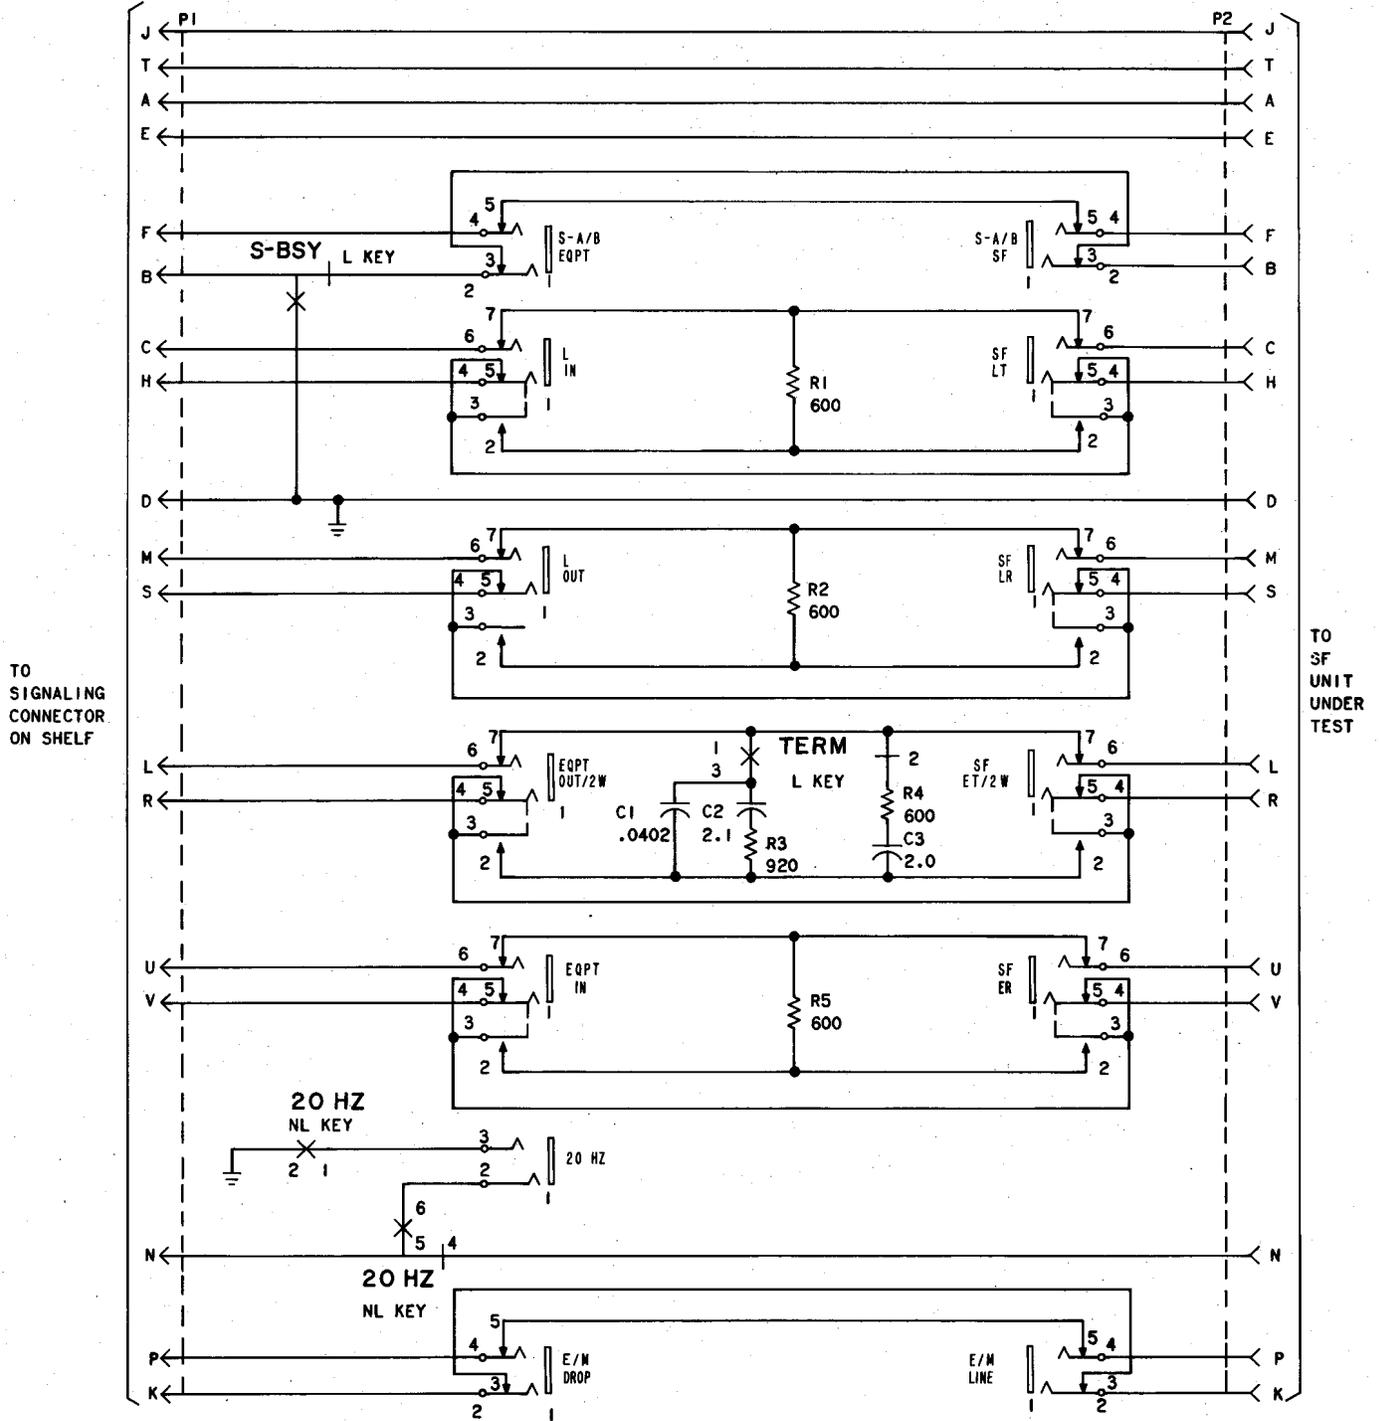

Fig. 3—Schematic Drawing of Test Extender
3.01 A schematic drawing of the extender is shown in Fig. 3. The cord designated P1 is connected to the SF units bay mounting J1 jack, and the SF unit is inserted into the jack designated P2. All of the signaling and transmission leads are wired to the extender jacks. When all keys and jacks are at normal, the SF unit is merely extended from its bay location to an accessible location. Battery, ground and SF tone, are wired around the extender jacks.